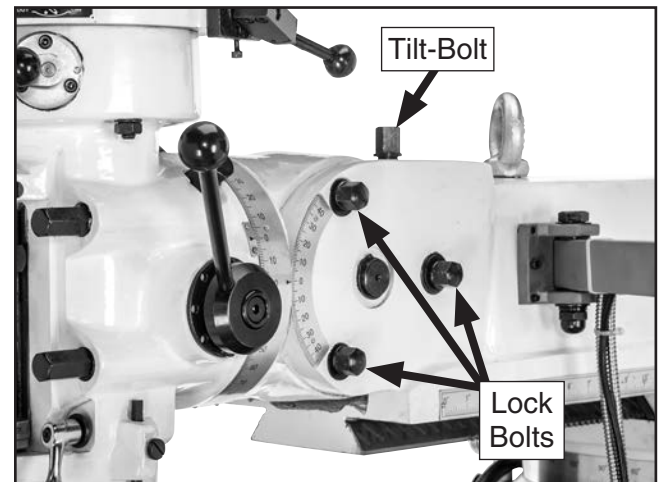

Figure 33. Head tilt controls.
2. Loosen three lock bolts shown in **Figure 33**.
3. Use one hand to apply pressure to head in direction of tilt, then slowly rotate tilt-bolt shown in **Figure 33**.